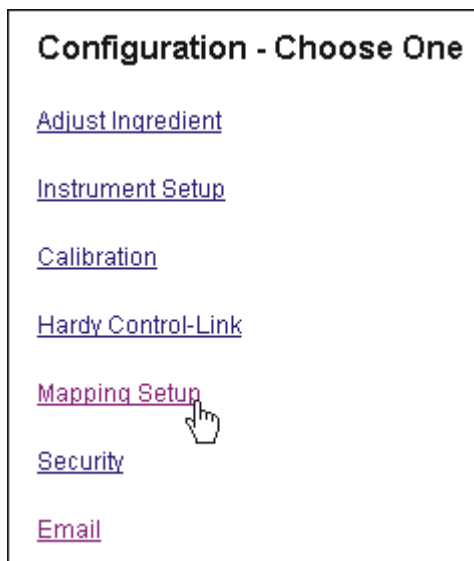

FIG. 312: CONFIGURATION WEB PAGE/ SELECTING MAPPING SETUP
Step 13. Click on Configuration. The Configuration Web page appears. (See Fig. 312)